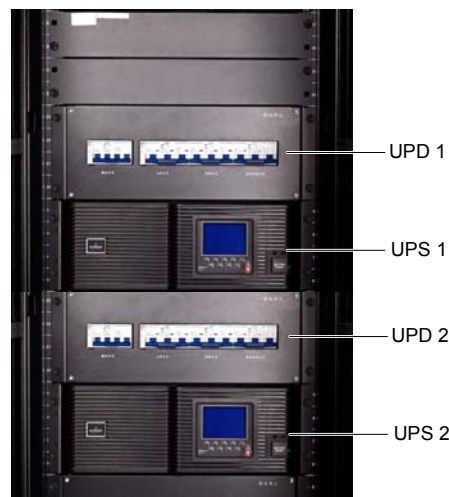

Figure 7-1 Rack installation of 1 + 1 parallel system
1. As shown in Figure 7-1, the single UPS is installed under the UPD for convenient cable connection and operation.